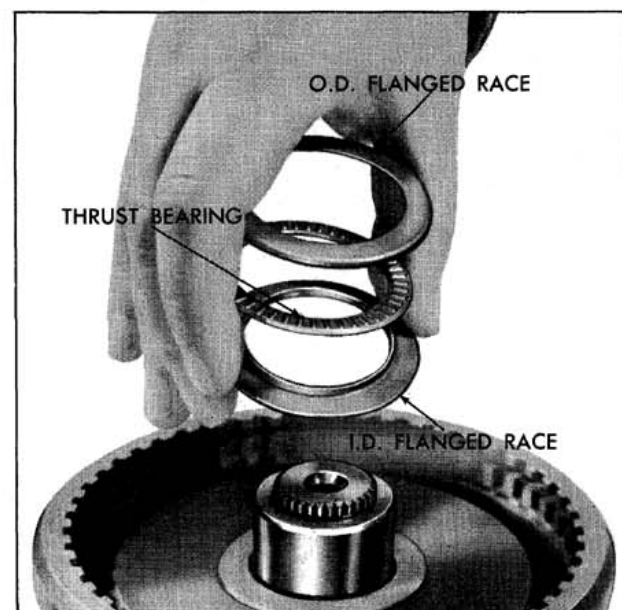

Fig. 6-87 Removing Thrust Washers
10. Remove output shaft to rear internal gear thrust bearing and two races. (Fig. 6-87)